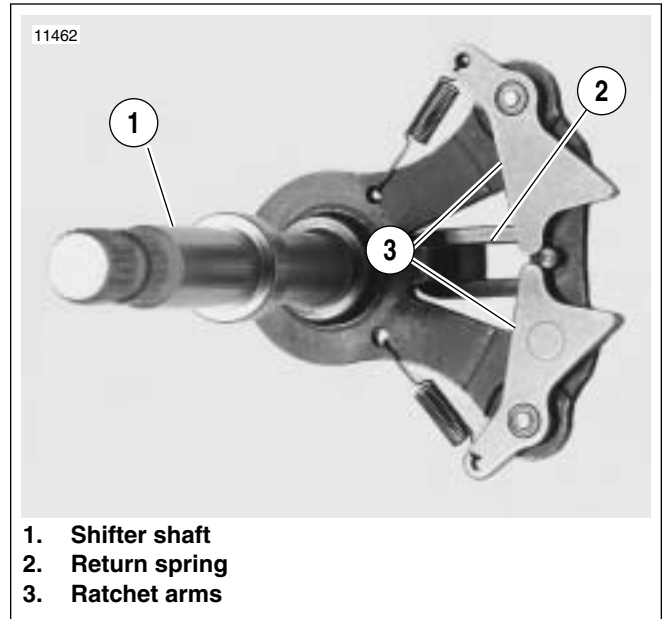

Figure 6-50. Shifter Shaft Assembly
- 12. See Figure 6-50. Depress ratchet arms (3) in order to clear the shifter drum and remove shifter shaft assembly from left crankcase half.